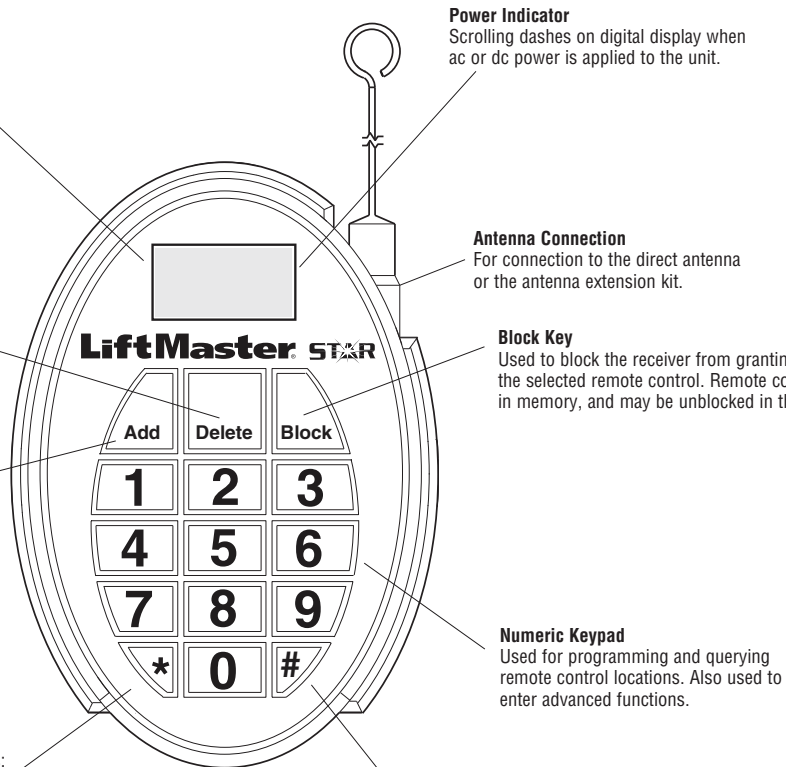

Figure 1
3. Mount back plate to desired surface using hardware #6 (not provided). Hardware used will depend on mounting application (refer to Figure 1 for receiver mounting hole locations).